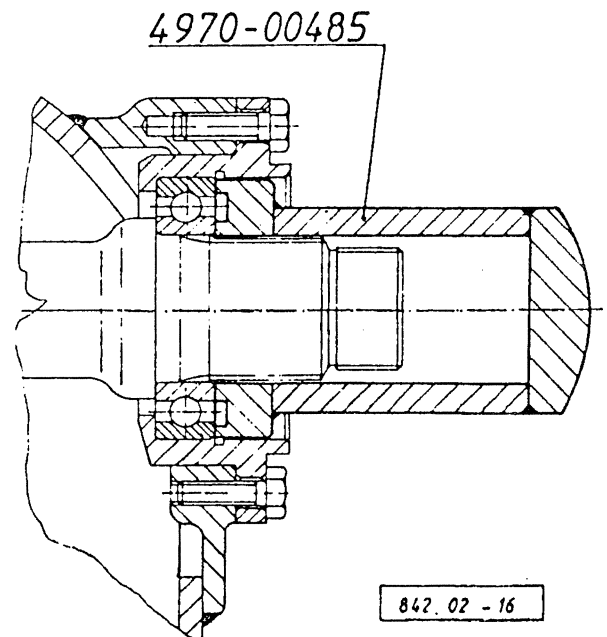

Fig. 2.: REINSTALLING THE THRU-DRIVE SHAFT
Heat up the deep-groove ball bearing to **80 - 100° C** and by means of tool shown in **Fig. 2**. install to the thru-drive shaft to bottom out against the shoulder ring.
Position the subassembled thru-drive shaft to the axle housing, the aligning its splines to those of the differential gear I. (91) drive the deep-groove ball bearing together with the shaft to place until the bearing bottoms out against its seat. For driving in use the same tool as above (see **Fig. 2**).
By the above tool drive in the inner sealing ring, position the distance ring (99) and also drive in the outer sealing ring by the drive sleeve shown in **Fig. 2**. to flush with outer edge of the bearing cage.